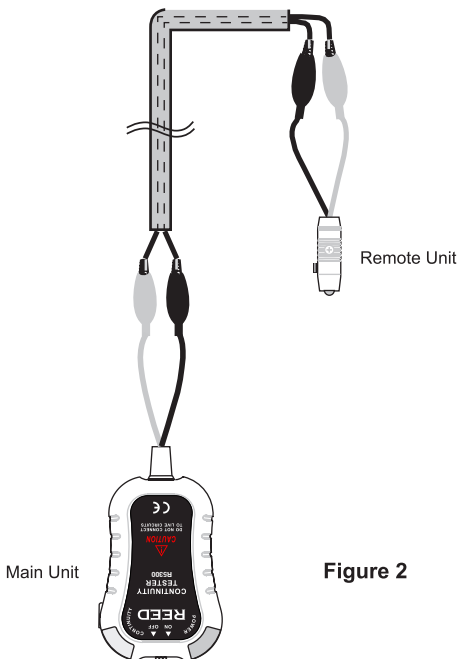

Figure 2
2. Refer to Figure 2, attach the red and black clips of the Main Unit to one end of cable/wires under test, then go to the other end of the cable/wires and connect them to the test leads of the Remote Unit.